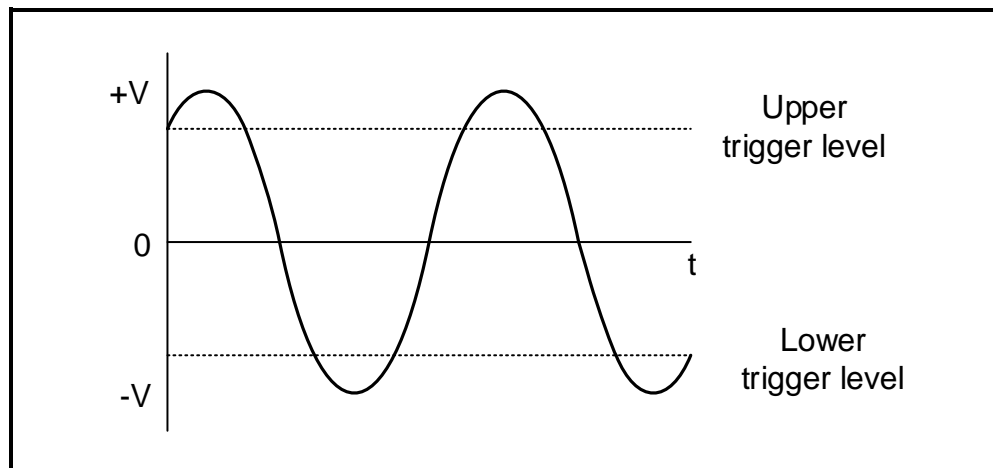

FIGURE 2.5.2: INPUT SIGNAL
2.5.2 Draw the output signal on ANSWER SHEET 2.5.2 if the signal in FIGURE 2.5.2 below is applied to the input of the Schmitt trigger. (3)